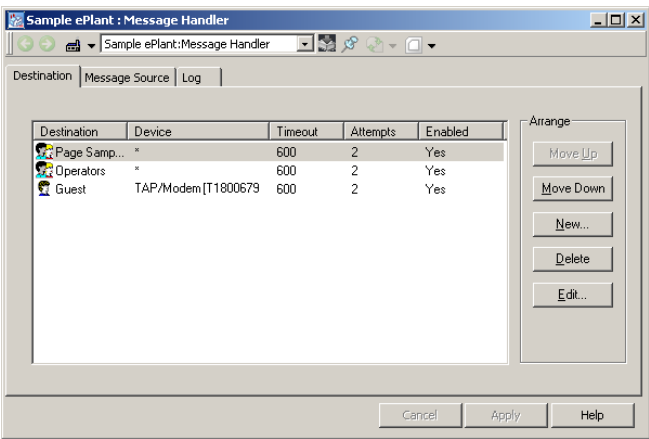

Figure 118. Configured Destinations Tab
- 21. Figure 118 shows a completed message destination configuration with two user groups (Page Sample ePlant and Operators) and a TAP/Modem Device for an individual user (Guest) configured.
- For example, using the configuration shown in Figure 118, the sequence of events is illustrated in Figure 119.